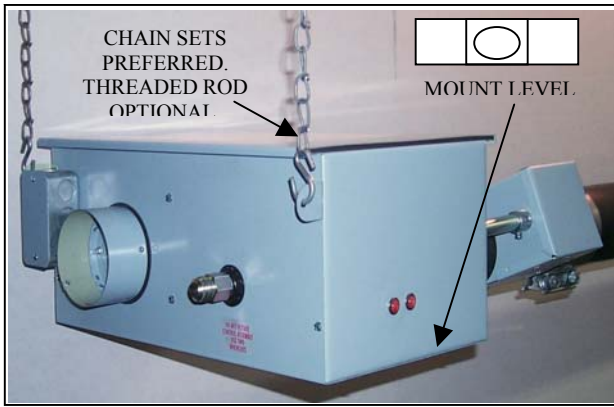

Figure 2-6
**NOTE:** If windy conditions exist in the space around the heater, it may be necessary to rigidly mount the heater to prevent swaying. It is recommended that threaded rod be used for the two hanging points at the burner control box (See Figure 2-6). The remaining hanging points should use chains to allow for heater expansion.